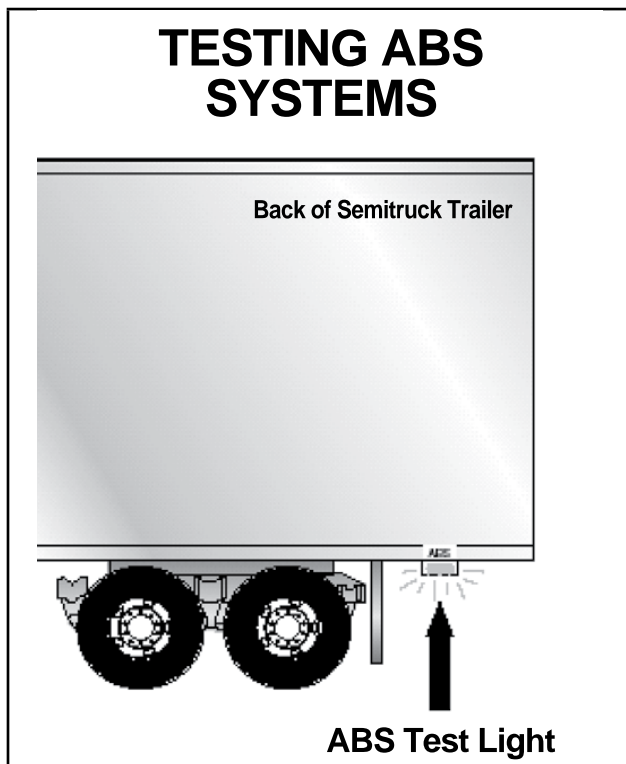

Figure 6.7
- Trailers will have yellow ABS malfunction lamps on the left side, either on the front or rear corner. See Figure 6.7. Dollies manufactured on or after March 1, 1998, are required to have a lamp on the left side.